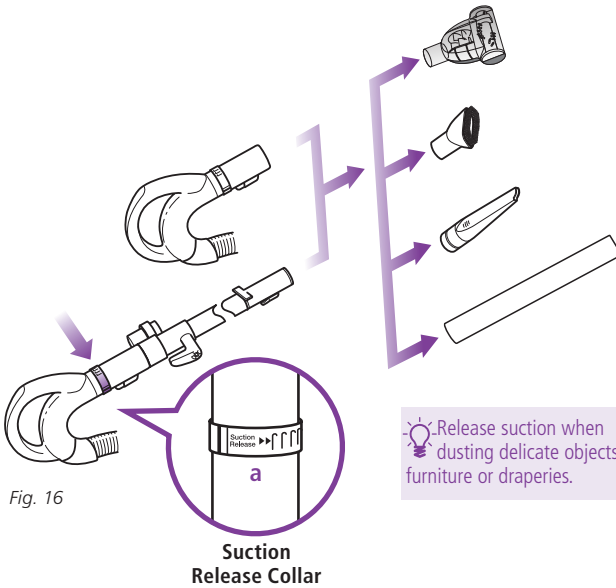

Fig. 16
- 2 Attach desired accessory onto the end of either the extension wand or the handle. (Fig. 16)
- 3 Your vacuum has tremendous suction power. Adjust the amount of suction with the suction release on the handle. Open the valve (a) by rotating the collar 90° counterclockwise for low suction when doing light jobs such as drapes or fine surfaces. Close the valve (a) by rotating the collar clockwise 90° for high suction and when using the hand held power brush. (Fig. 16)